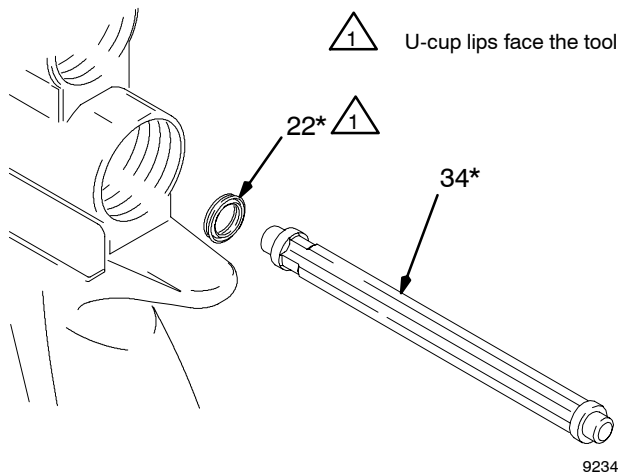
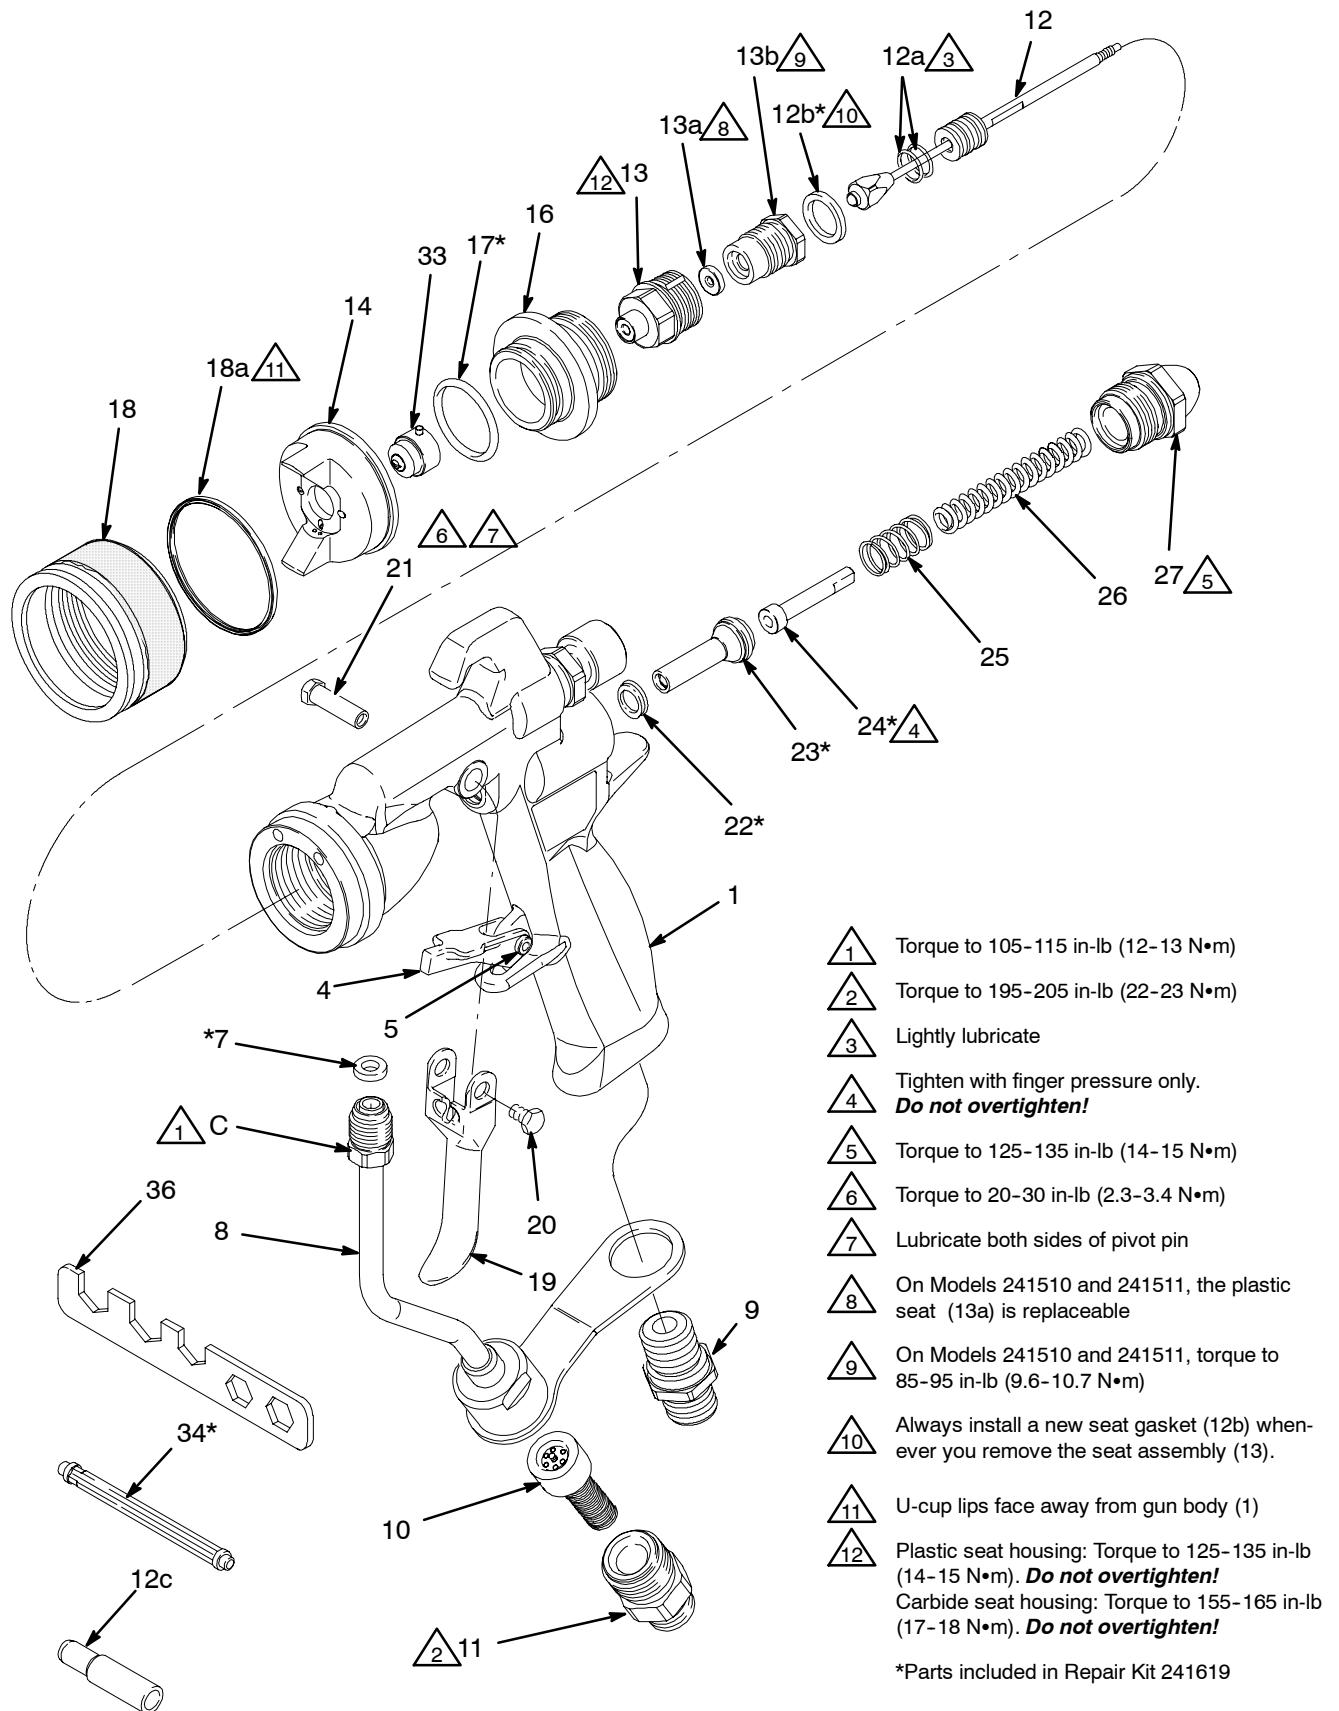

Fig. 21
Fig. 24
- Gun Repair Kit 241619 is available. The kit includes an o-ring (17), gaskets (7, 12b), u-cups (18a, 22, 28a), air valve assembly (23), and seal installation tool (34).
- Lightly lubricate the parts indicated in Fig. 24 with lubricant 111-265.
2. Remove the air cap retaining ring (18), air cap (14), and spray tip (33). See Fig. 24.
3. Unscrew the air separator (16) from the front of the gun body (1). Carefully remove the o-ring (17). Do not damage the o-ring groove.
4. Trigger the gun to pull the needle ball off the seat while you unscrew the seat assembly (13) from the gun body (1), using the gun tool (36). Remove and discard the seat assembly gasket (12b).
1. Install the gasket (7*) in the gun. Screw the fluid tube connector (C) into the gun's fluid inlet. Torque to 105–115 in-lb (12–13 N•m). See Fig. 24.
2. Install the inline fluid filter (10) into the base of the fluid tube (8). Screw the fluid inlet fitting (11) into the base of the tube. Torque to 195–205 in-lb (22–23 N•m).
3. Place the new u-cup (22*) on the seal installation tool (34*), with the u-cup lips facing the tool as shown in Fig. 21. Push the u-cup into the back of the gun until a definite snap is felt.
10. Install a new seat gasket (12b). Trigger the gun to pull the needle back while you screw the seat assembly (13) into the gun body (1), using the gun tool (36). Refer to Fig. 24 for recommended torque values. When properly tightened, the flange will bottom out on the gun.
11. Install the o-ring (17*) and screw the air separator (16) onto the front of the gun body (1).
12. Install the u-cup (18a*) in the air cap retaining ring (18), with the lips facing away from the gun body. Install the spray tip (33) and air cap (14), then secure with the retaining ring.